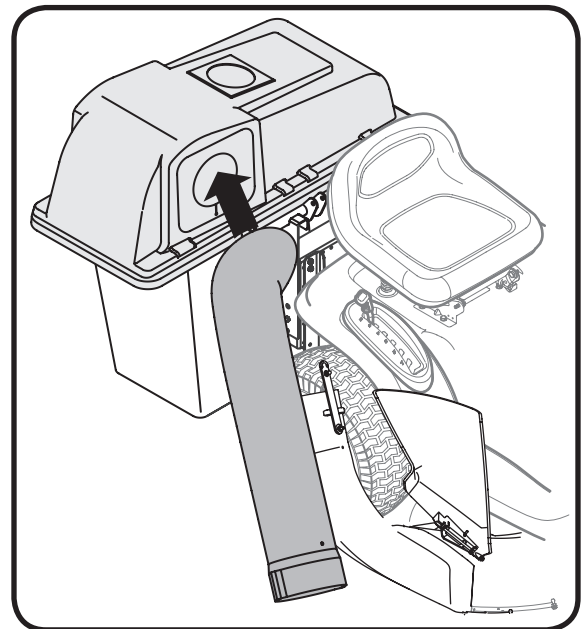

Figure 5-2
6. Insert the curved end of chute tube into the hole in the grass bag cover. See Fig. 5-2.